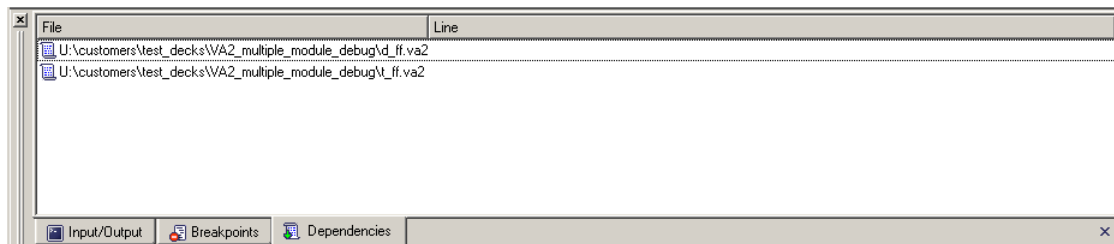

Figure 9-19 Dependencies Panel in the Console Window
2. Click Dependencies panel (Figure 9-19), and double-click the file you like to set breakpoint. This file will be displayed in the text editor window, and you can set breakpoint by just clicking on the line.